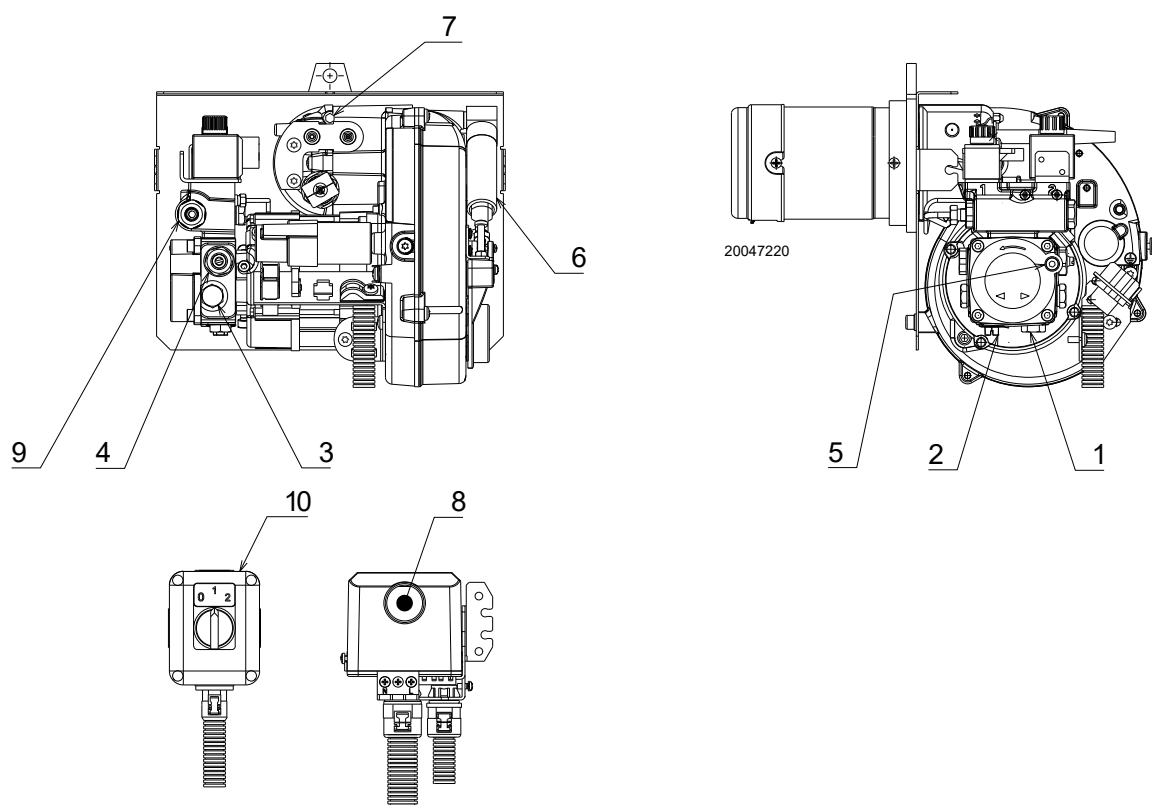
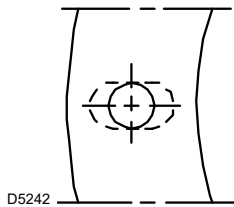

Fig. 1
Fig. 6
- It is necessary that the insulating gasket 9)(Fig. 1) is placed between the boiler door and the burner flange. The insulating gasket has six holes, which, if necessary, can be modified as shown in Fig. 6.